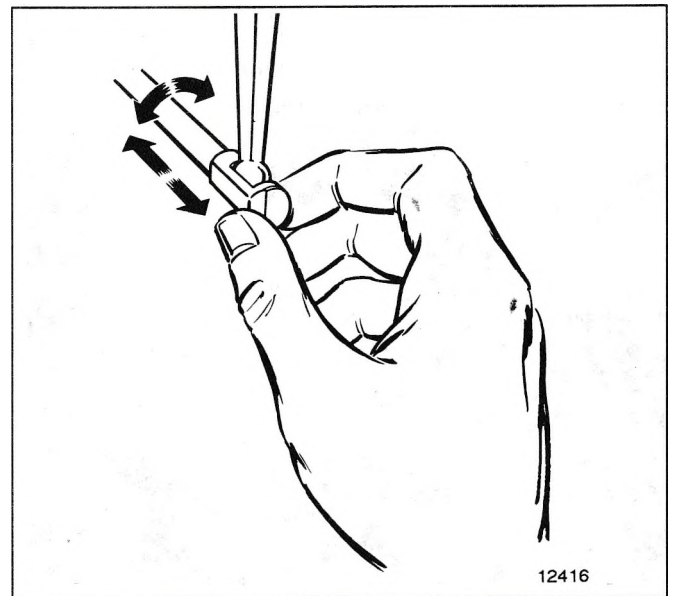

Fig. 6 - Checking Movement of Injector Control Rack
5. Balance the No. 1R and No. 1L injector rack control levers by grasping each rack (No. 1R and 1L — one at a time) with the thumb and index finger and, using a push-pull rotating motion (Fig. 6), note the amount of movement of each injector control rack. If the movement is the same between the No. 1R and No. 1L injector control racks, the two control levers are in adjustment. On former governors, if the movement is not the same between the two racks, loosen either the inner or outer adjusting screw of the No. 1R rack control lever and adjust the lever until the two racks are balanced. On current governors, loosen either the inner or outer adjusting screw (Two Screw Assembly) or turn the adjusting screw (One Screw and Locknut Assembly) of the No. 1L control rack lever and adjust the lever until the two racks are balanced. Never alter the setting of the No. 1L injector rack control lever (former governors) or the No. 1R injector rack control lever (current governors) after they have been initially set.